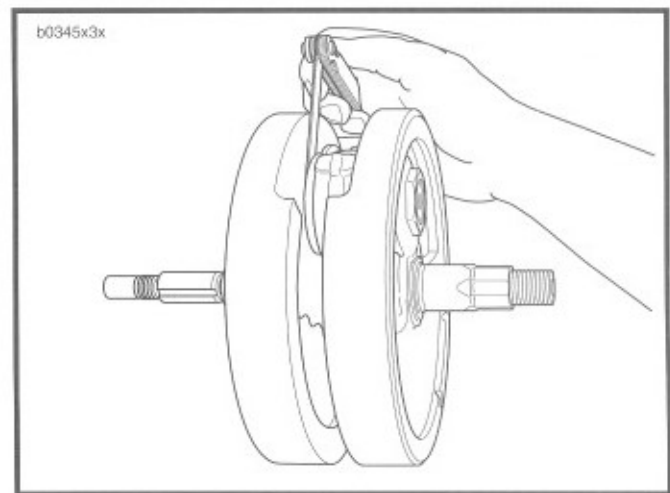

Figure 3-95. Checking Connecting Rod Side Play
18. See Figure 3-95. When wheels are true, check connecting rod side play with thickness gauge as shown. If it is greater than tolerance shown in engine SPECIFICATIONS, draw up crank pin nuts until within tolerance. Insufficient play between rods and flywheel face is caused by one of the following conditions: